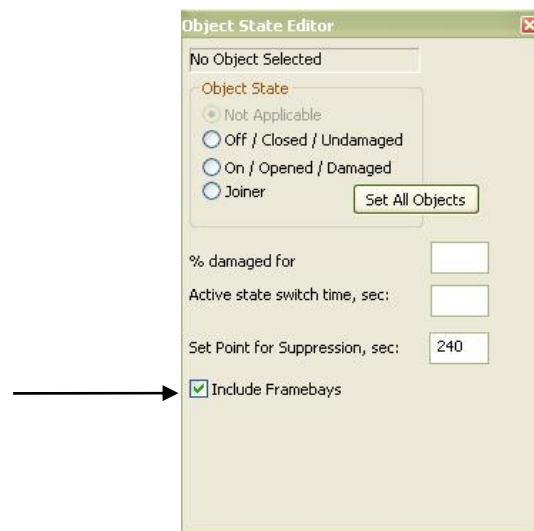

Figure 3-8 Including framebays in the Object State Editor
Step 5: In the object state popup window (Figure 3-8), check the *Include FrameBays* box. This currently applies only to the Confined_Space.